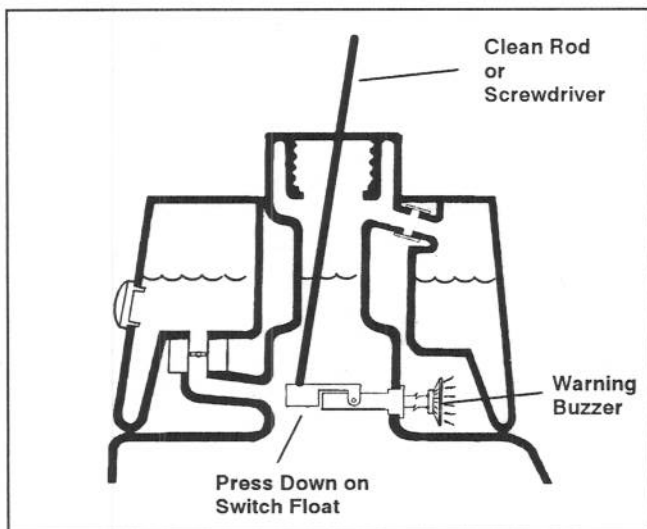

Figure 20
C. Insert a clean rod or screw driver into tank neck and gently push down on switch float (Fig. 20). Alarm should sound after one second delay.